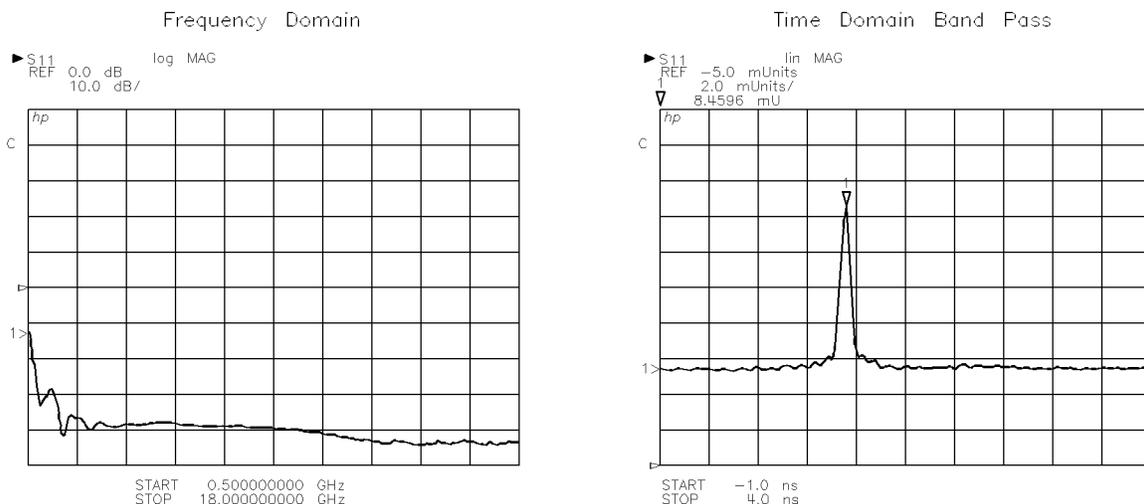

Figure 11-2. Measurement of a Sliding Load
4. Press **AUTO** to display the trace and observe the Time Domain response as the sliding element is moved. Typical Frequency Domain and Time Domain responses of a sliding load are shown in Figure 11-2.
In Time Band Pass reflection measurements, the horizontal axis represents the amount of time that it takes for an impulse, launched at the test port, to reach the discontinuity and return. Thus, this is the two-way travel time to the discontinuity, which in Figure 11-2 is the load element of the sliding load.